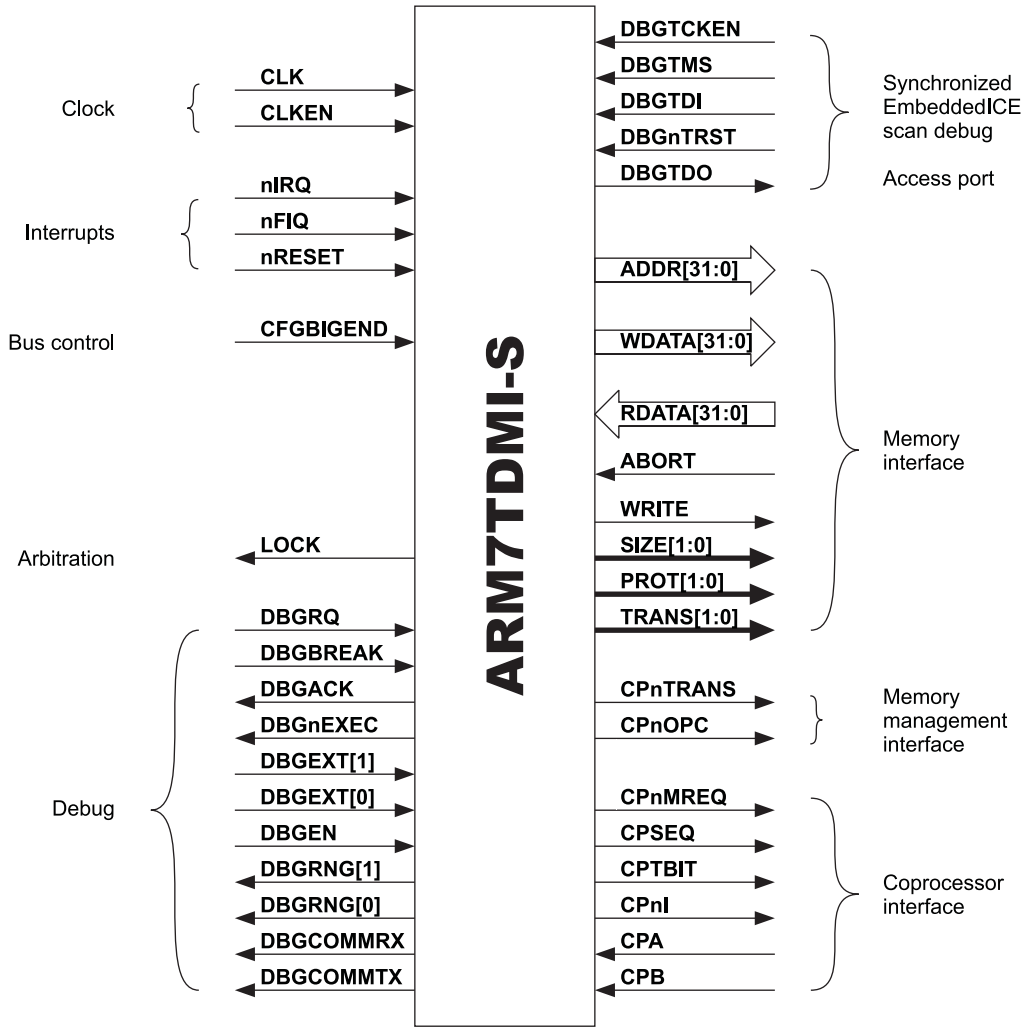

Figure 1-4 ARM7TDMI-S functional diagram
- the ARM7TDMI-S functional diagram is shown in Figure 1-4 on page 1-8.